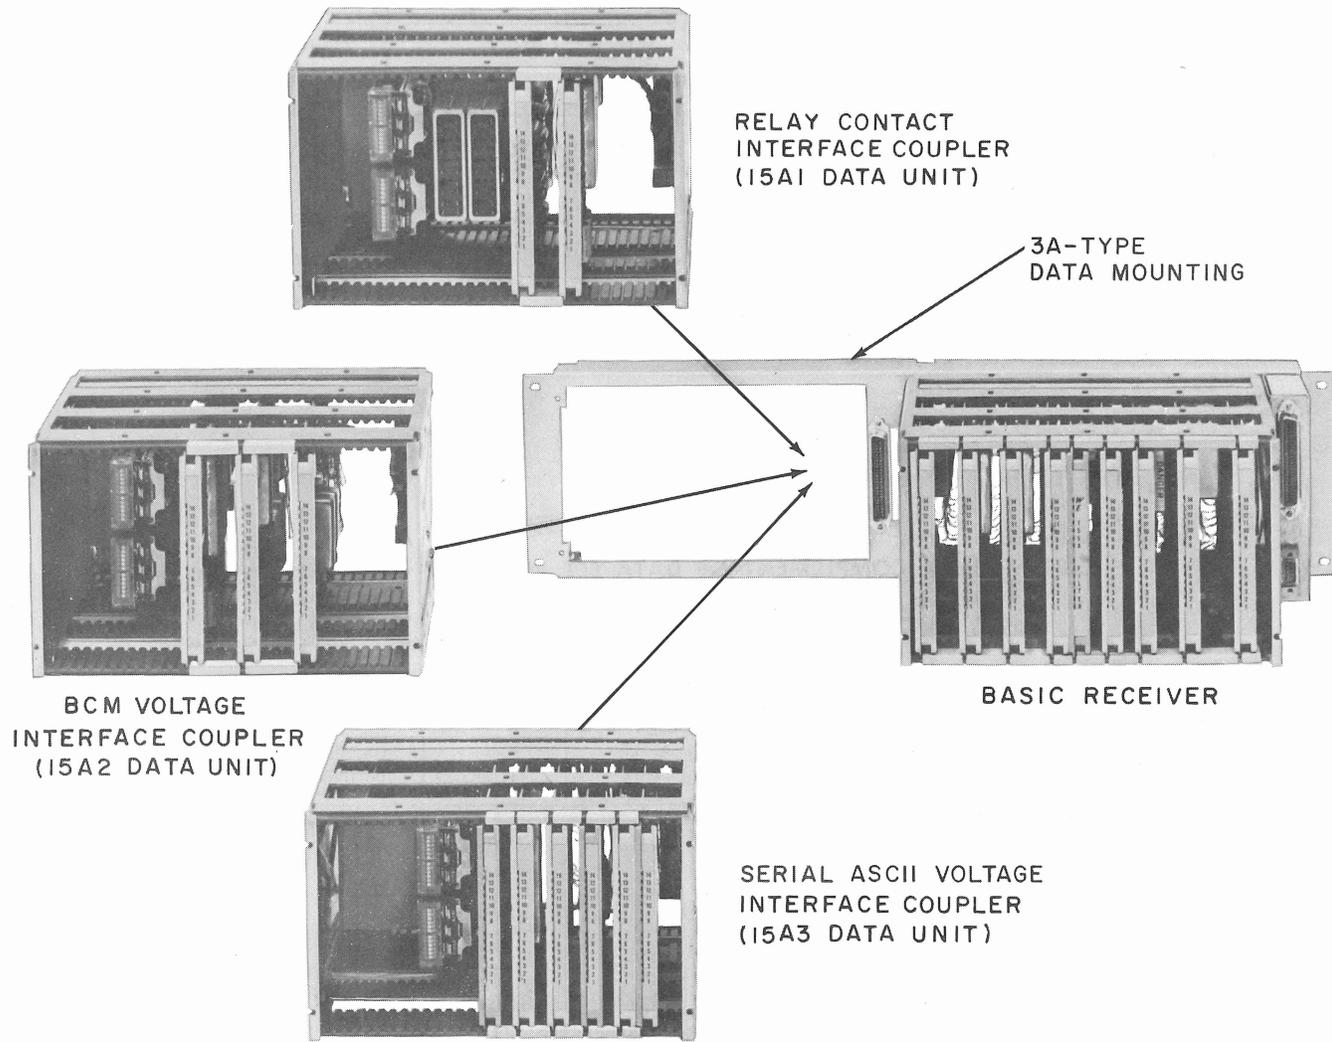

Fig. 2—Basic Receiver and Optional Coupler Units Which Make Up a Data Set 403D-Type
2.01 The basic building block of the Data Set 403D-type multiple data set station is the Data Set 403D-type receiver (Fig. 2). This set consists of a 3A3 Data Mounting, nine plug-in circuit packs installed in a basic receiver, and one of three interface couplers (Data Unit 15A1, 15A2, or 15A3).